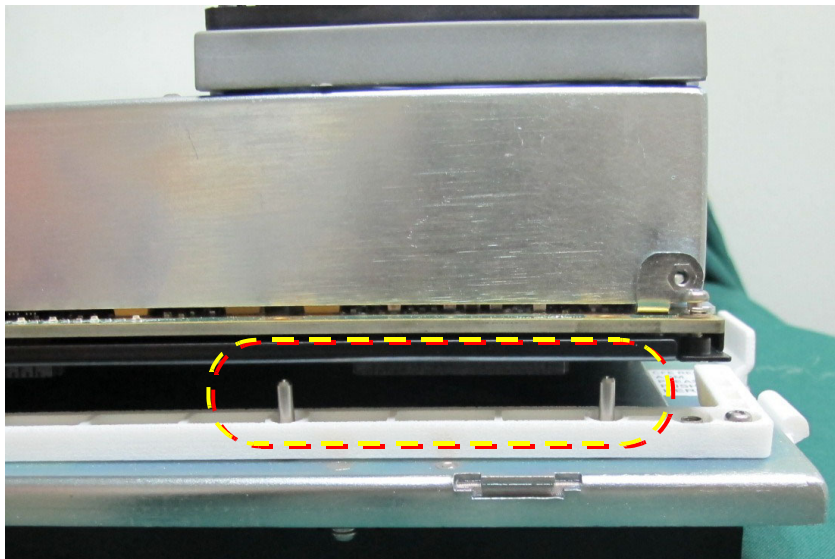

Figure 8-171 CFE Board Aligned on Guide Pins
- 2.) Gently align the new CFE Board on the guide pins located on the base of the Cage (Figure 8-171 below) and lower the CFE Board into position.